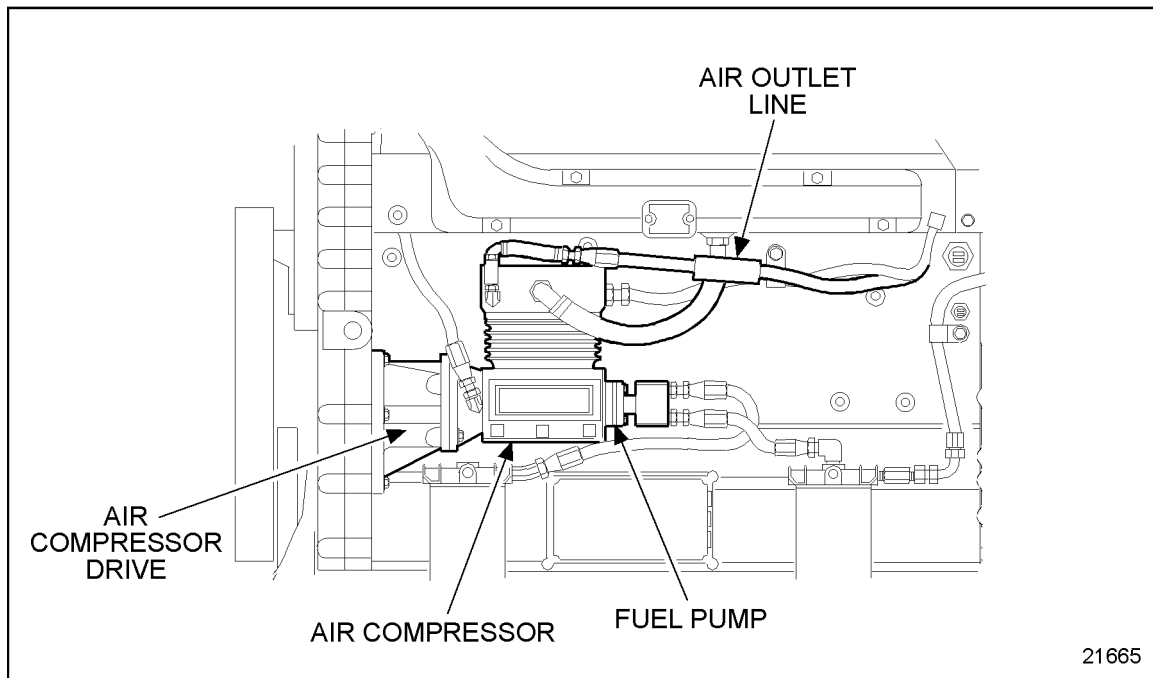

Figure 7-1 Air Compressor Air Outlet Line
2. Disconnect the air outlet line from the air compressor; see Figure 7-1; refer to appropriate service manual, special equipment chapter.